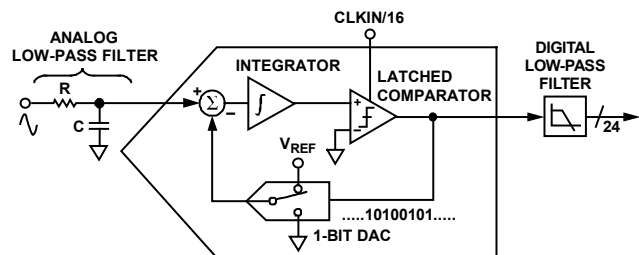
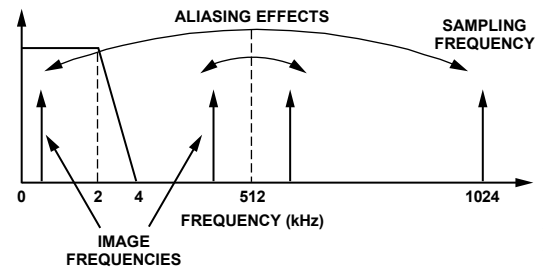

Figure 27. First-Order  $\Sigma$ - $\Delta$  ADC
Figure 29. Aliasing Effects
For simplicity, the block diagram in Figure 27 shows a first-order  $\Sigma$ - $\Delta$  ADC. The converter is made up of the  $\Sigma$ - $\Delta$  modulator and the digital low-pass filter.
Figure 27 also shows an analog low-pass filter (RC) on the input to the ADC. This filter is placed outside the ADE7878, and its role is to prevent aliasing. Aliasing is an artifact of all sampled systems and is illustrated in Figure 29. Aliasing means that frequency components in the input signal to the ADC, which are higher than half the sampling rate of the ADC, appear in the sampled signal at a frequency below half the sampling rate. Frequency components above half the sampling frequency (also known as the Nyquist frequency, that is, 512 kHz) are imaged or folded back down below 512 kHz. This happens with all ADCs regardless of the architecture. In the example shown, only